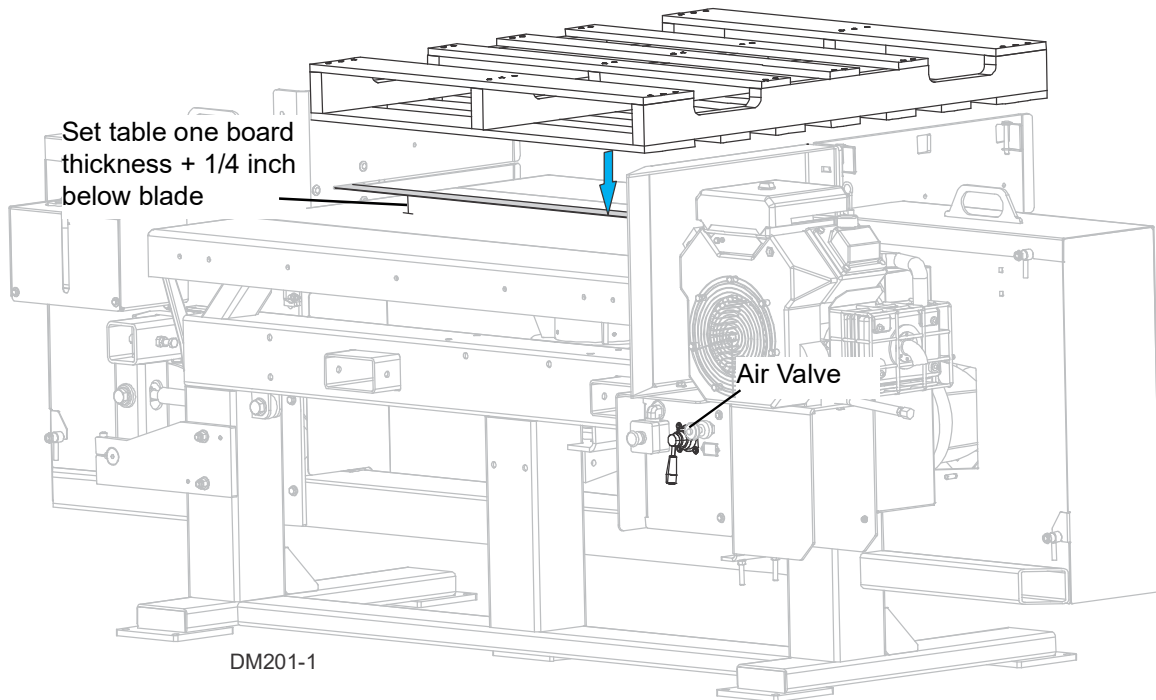

FIG. 3-2
See Figure 3-2.
14. Place half the pallet over the blade and lower the pallet so the blade is positioned between two deck boards. (See figure 3-2.)